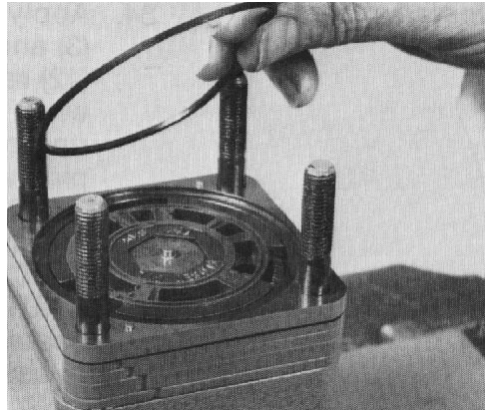

Figure 102
38. Apply clean multi-purpose grease to the valve ring seal ring. Install the seal ring in the valve ring (Fig. 102).